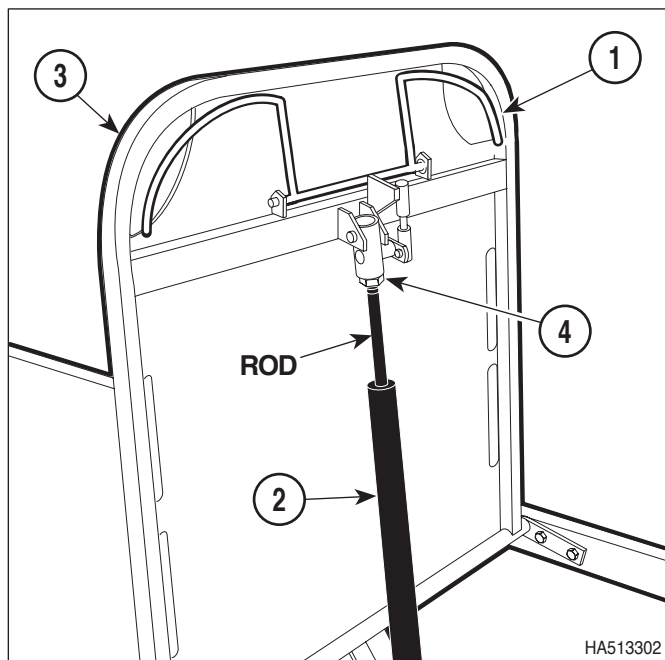

Figure 4-6. Fowler Gas Spring Adjustment
- (1) Squeeze the Fowler handle (1, Figure 4-6). The Fowler gas spring (2) should release when the handle is squeezed - meaning the Fowler (3) should be able to be raised and lowered. Release the Fowler handle. Put pressure on the Fowler. The Fowler should not "drift" downward.
- (2) Loosen jam nut (4)
- (4) If the Fowler gas spring (2) “drifts” downward when pressure is applied to the Fowler (3), adjust as follows: Using vise grips and cloth, unscrew rod of Fowler gas spring (2) 1/2 turn. Repeat steps 1 and 4 until the Fowler gas spring does not “drift”. See Figure 4-6.
- (5) Using vise grips and cloth to hold rod of Fowler gas spring (2) from rotating, tighten jam nut (4). Tighten jam nut to 12 - 17 ft-lbs (16 - 23 N•m). See Figure 4-6.